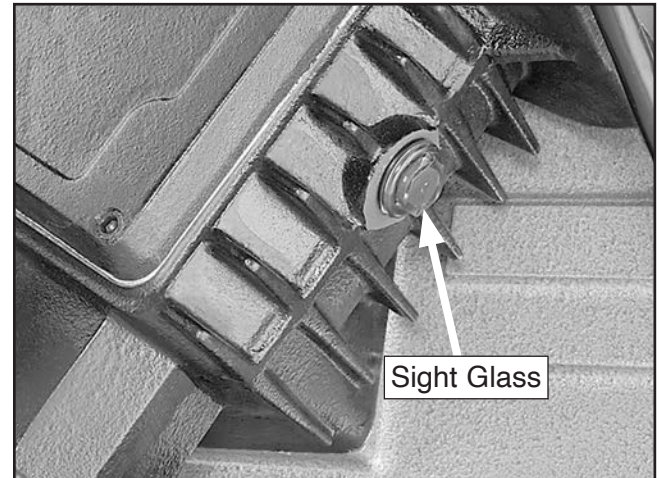

Figure 67. Location of gearbox sight glass.
8. Fill gearbox at fill plug hole until sight glass is about halfway full (see **Figure 67**).